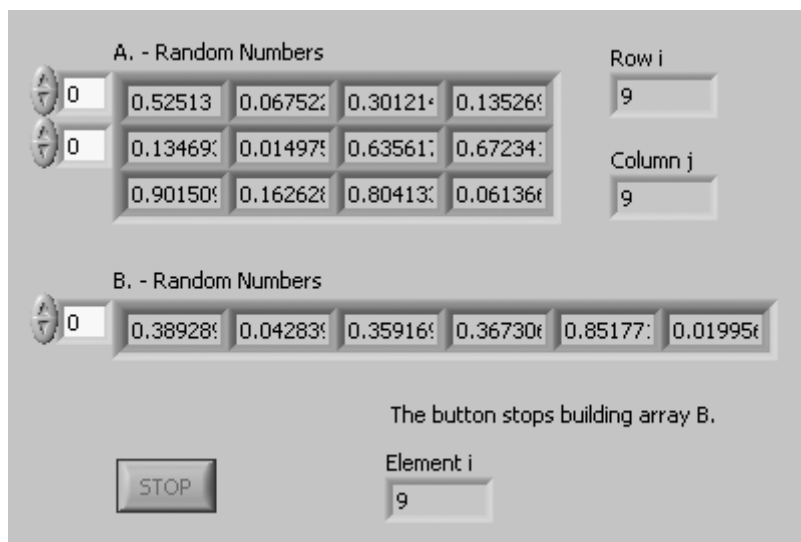
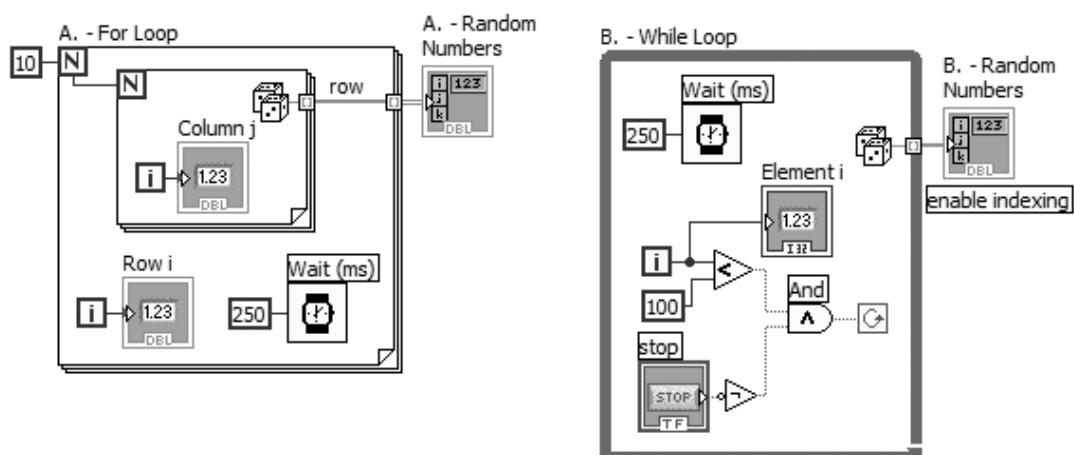

Figure 7.15
Figure 7.16
2. Take a look at the front panel (see Figure 7.15), and then switch to the block diagram (see Figure 7.16). Notice how the nested For Loops create a 2D array's rows and columns at their borders, respectively, using auto-indexing. Also notice how the auto-indexed wires become thicker as they leave the loop boundaries.